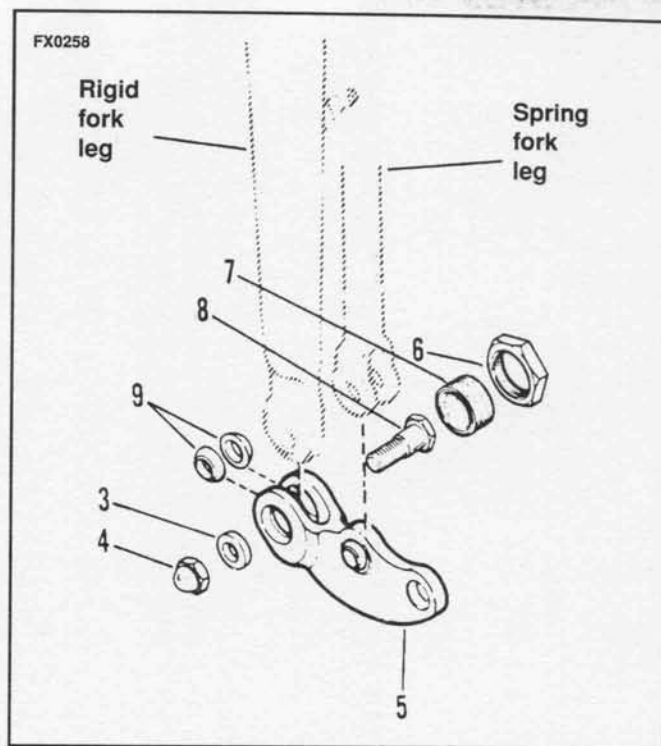

Figure 2-74. Rocker Assembly
6. See Figure 2-74. Remove bearing retainer jam nuts (6).
7. Remove bearing retainers (7).
8. Remove acorn nuts (4) (FLSTS hex nut) from rigid fork pivot studs. Remove rigid fork thin head pivot studs (8) from rockers and rigid fork legs. Remove bearings (9) from thin head pivot studs (8).
9. Remove rockers (5).
2. See Figure 2-74. Grease rocker bearing race with a finger full of grease. Place one bearing half (9) in rocker race, spherical surface against the race.
3. Place other half of bearing on pivot stud (8), spherical surface towards stud head.
6. Install thick washer (3) and acorn nut (4) (FLSTS hex nut). Use Loctite 242 (blue) on acorn nut (FLSTS hex nut) and tighten nut to 45-50 ft-lbs (61-68 Nm).
7. Apply anti-seize to threads of bearing retainer (7). Apply a finger full of grease on the bearing race. Install bearing retainer. Tighten retainer to 25-35 in-lbs. (2.8-4.0 Nm).
8. Secure bearing retainer by installing jam nut (6). Tighten jam nut to 95-105 ft-lbs (129-142 Nm).